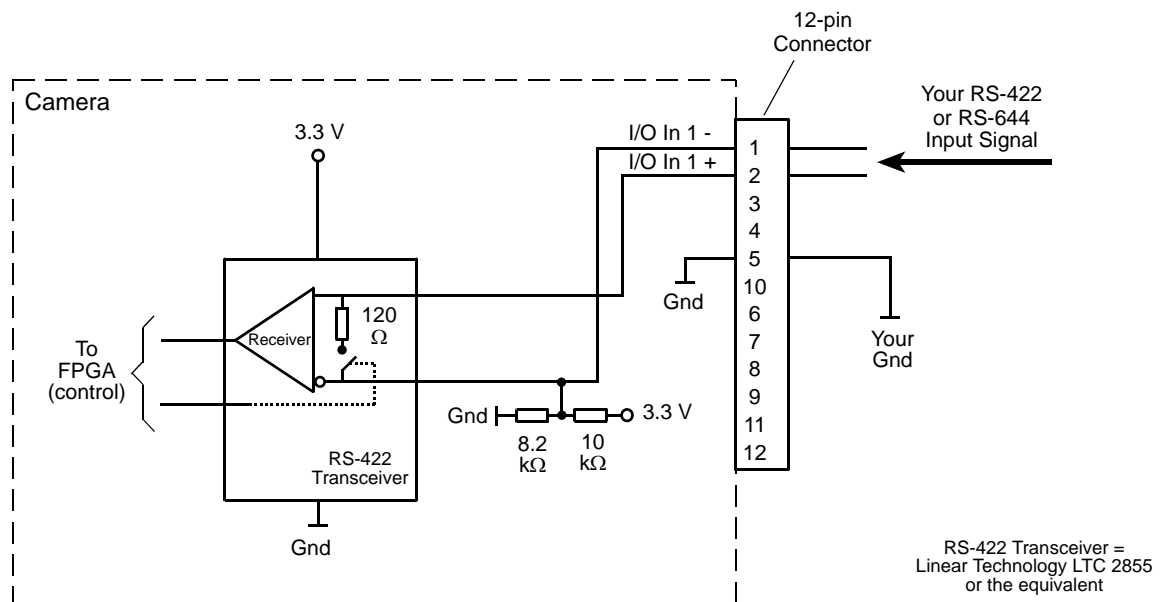
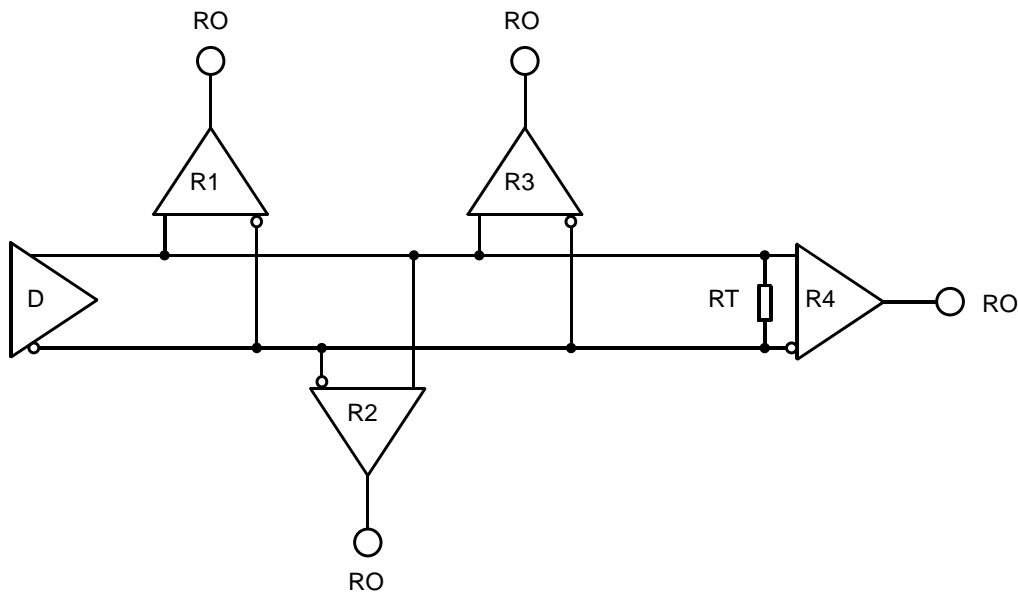

Fig. 17: Inputting RS-422 or RS-644 Signals
Fig. 18: RS-422 Interface Circuit Including Four Receivers as an Example
As shown in Fig. 17 and in the I/O schematic at the beginning of this section, each input is designed to receive an RS-422 signal. For the camera's I/O circuitry to operate properly, you must supply a ground as shown in Fig. 17.
The RS-422 standard allows devices to be used with a bus structure to form an interface circuit. So, for example, input line 1 on several different cameras can be connected via an RS-422 bus as shown in Fig. 18.
The separations between receivers and bus should be as small as possible. The bus must be terminated by a 120 ohm termination resistor (RT). Note that each RS-422 input on the cameras includes a switchable 120 ohm termination resistor as shown in Fig. 17. When a camera input of the last receiver in the bus terminates the bus (as shown in Fig. 18.: R4), the termination resistor on that input should be enabled. You should not use multiple termination resistors on a single bus. Using multiple termination resistors will lower signalling reliability and has the potential for causing damage to the RS-422 devices.
For the camera's I/O circuitry to operate properly, you must supply a ground as shown in Fig. 17.